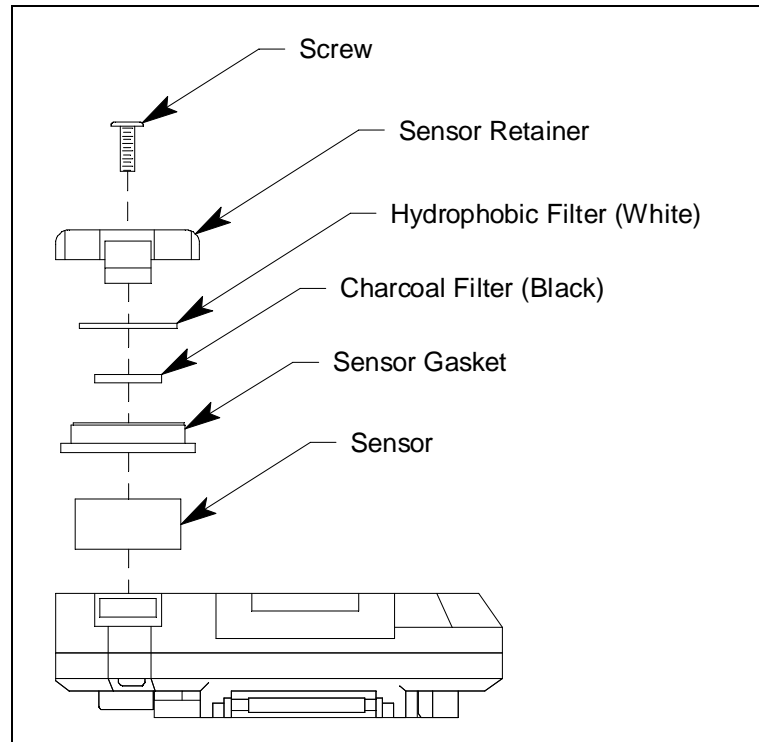

Figure 11: Replacing the Sensor
7. Reinstall the sensor gasket. Be sure to orient it as shown in Figure 11 above.